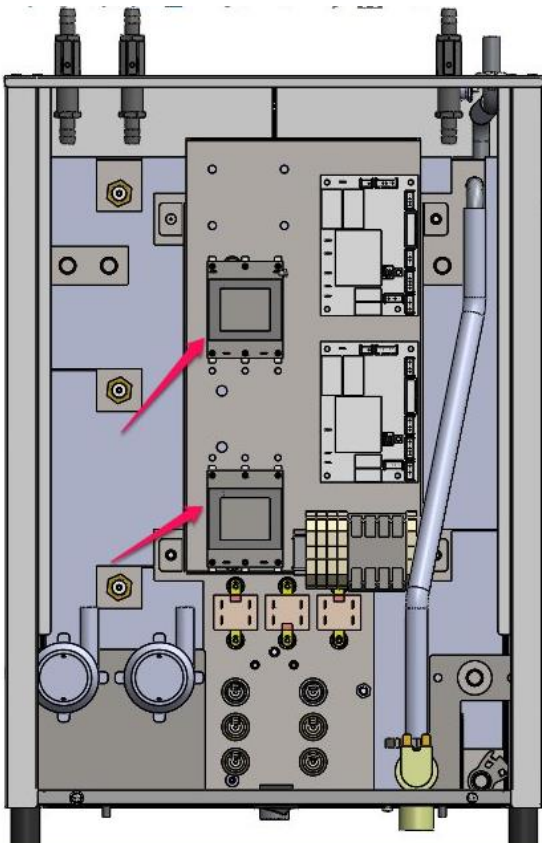

Fig 11
- Remove the old PSU supply from current position Fig 11. Disconnect and discard the Live & Neutral wires from main PCB. You can cut the cable ties and remove from circuit.